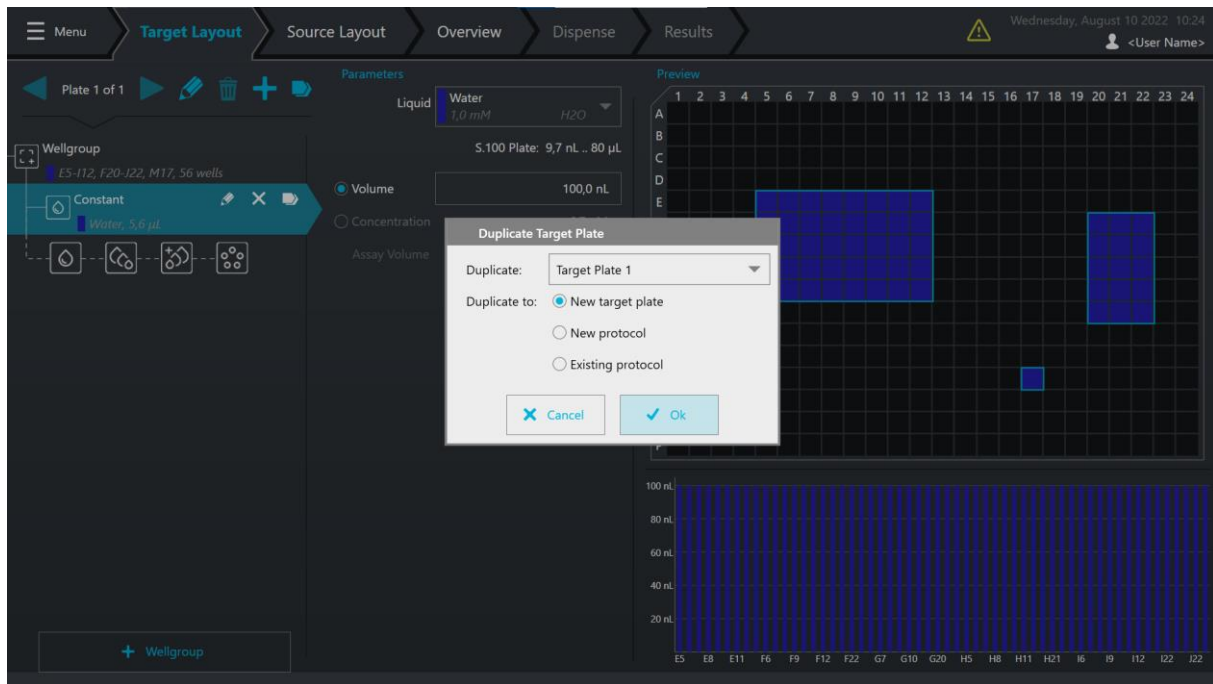

Figure 5: Duplicate Target Plate popup
- Clicking on the  button to duplicate the target plate layout. In the popup that shows up it can be selected which Target Plate layout should be duplicated and if it should be duplicated to a **New target plate**, to a **New protocol** or to an **Existing protocol** (Figure 5).